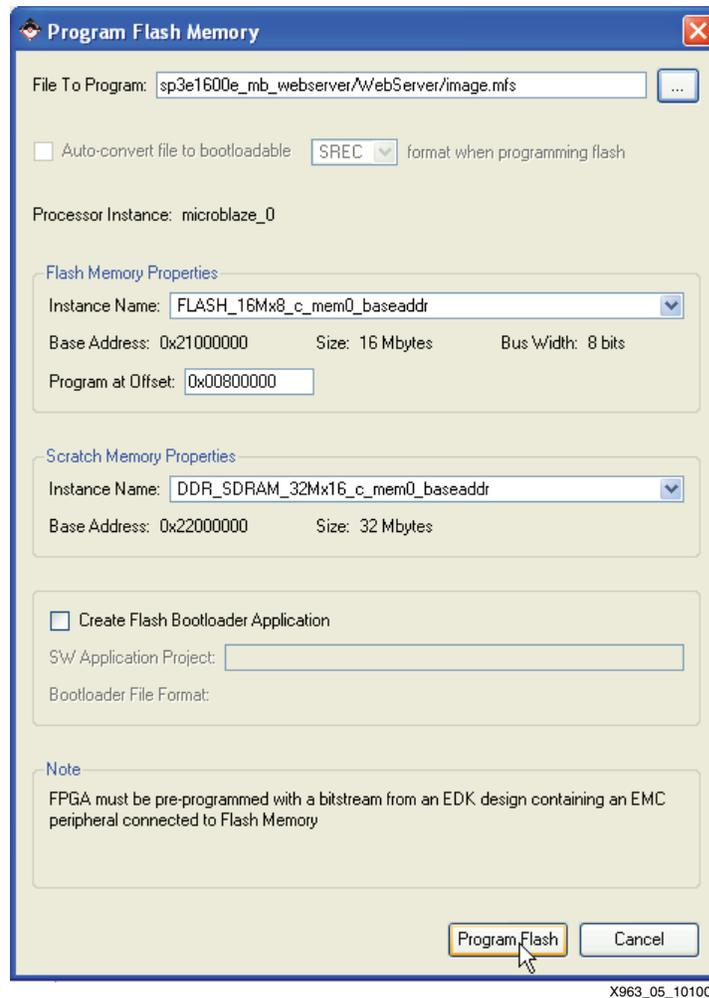

Figure 5: Program Flash Memory Dialog Box for the Web Server MFS Image
- In the Program Flash Memory dialog box, choose the file to program to be the provided MFS image file, `webserver_image.mfs`. Change the program offset to `0x00800000`. This program offset is the address where the provided Web server bootloader is programmed to find the MFS image. The Program Flash Memory settings for the MFS image are shown in Figure 5.